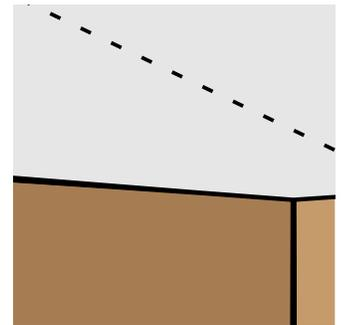

FIG. 9c
- c. Mark a line parallel to the dust collector's inlet along the reinforced positions from Step 9b [FIG. 9c].